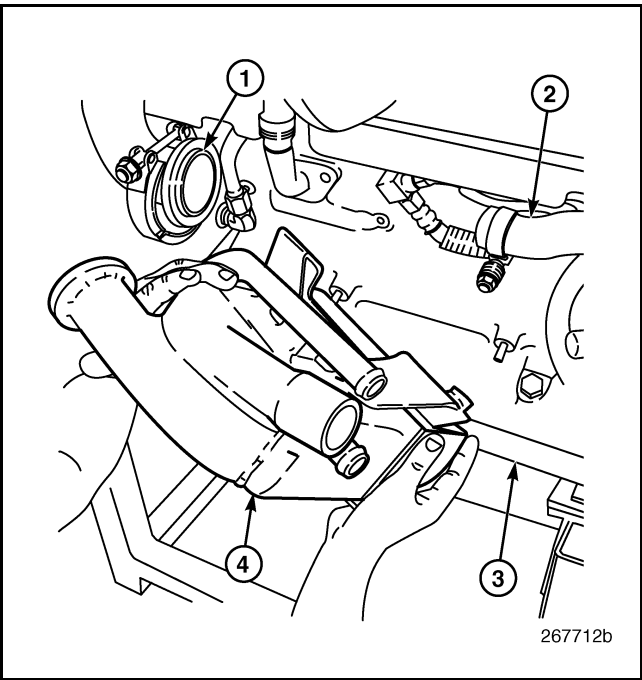

Figure 429 — EGR Cooler Installation
- 1. Place the EGR cooler assembly in position at the right side of the cylinder block (Figure 429). Install the four retaining nuts and tighten to specification.